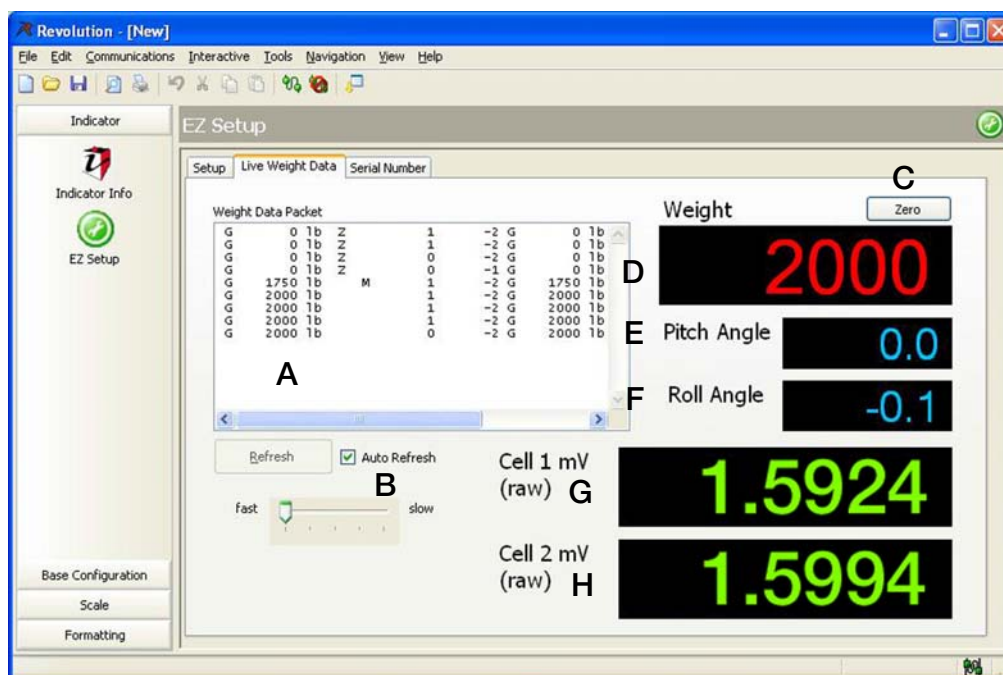

Figure 4-7. Revolution Live Weight Data screen.
1. Select the *Live Weight Data* tab (Figure 4-7).
Note Weight data packet screen shows output format of CLS-M3. Other displays include weight, pitch angle, roll angle, cell 1 & 2mV. (Figure 4-7). This is the information that will be sent to the customer supplied hand-held device when attached through Bluetooth.